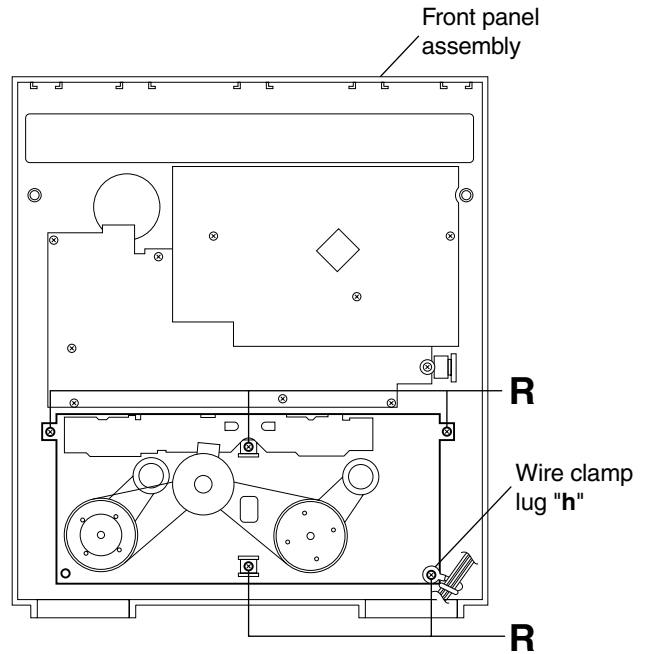

Fig.22
■ Removing the cassette deck mechanism (See Fig.22)
■ Removing the cassette deck main motor, and replacing the main belts (See Fig.22, 30 and 31)
■ Removing the leaf switches of the cassette deck mechanism (See Fig.22 and 32)
■ Removing the cassette deck heads (See Fig.22 and 33)